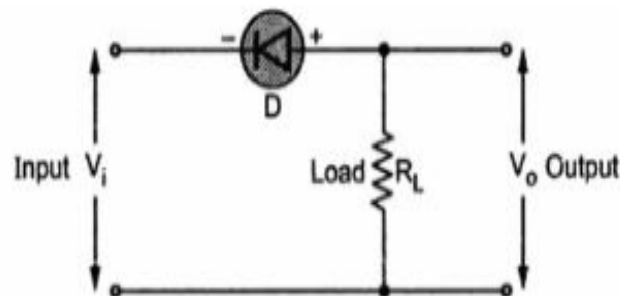

Fig. 2.16 Positive series clipper
- The Fig. 2.16 shows positive series clipper circuit in which diode direction is opposite to that in negative series clipper circuit.